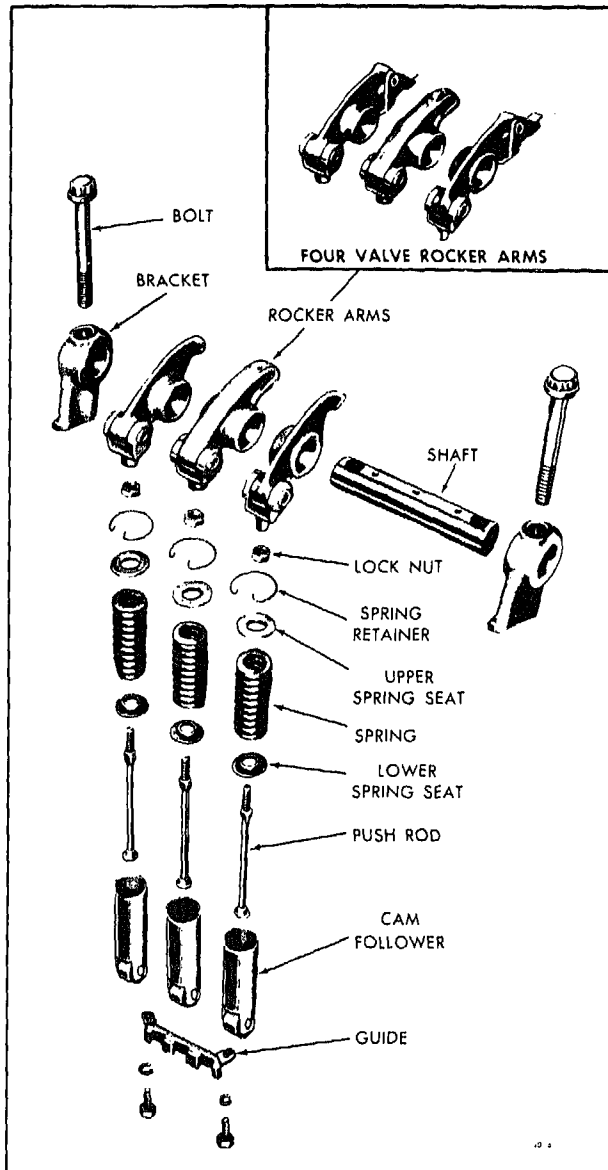
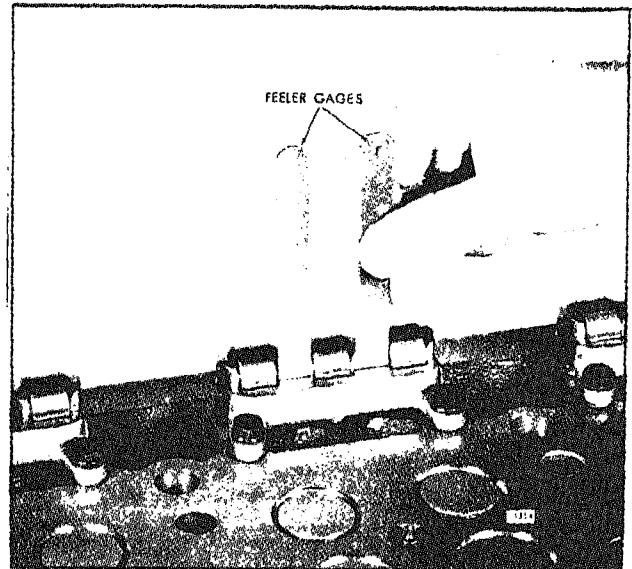
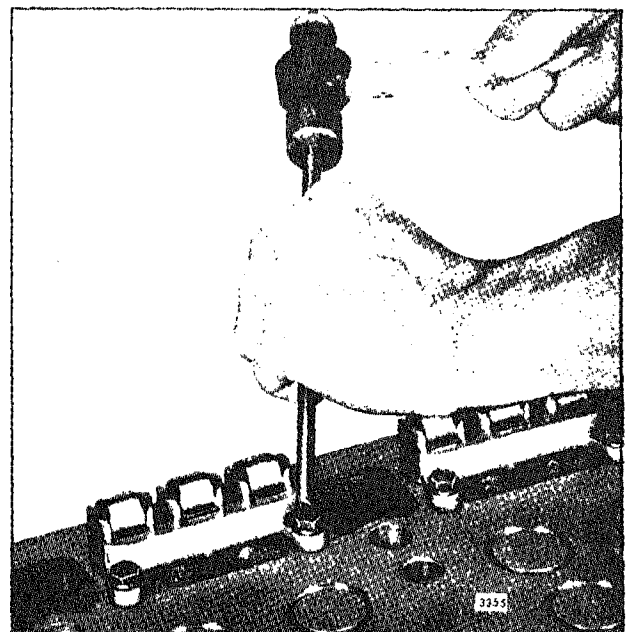

Fig. 8 - Valve and Injector Operating Mechanism Details and Relative Location of Parts
Fig. 9 - Checking the Clearance Between the Cam Follower Guide and Cam Follower Legs
Fig. 10 Adjusting Cam Follower Guide
1. Install a serrated lower spring seat on each push rod. If the engine being assembled was equipped with plain lower spring seats, replace them with serrated spring seats (Fig. 8).
8. Attach the cam follower guide (Fig. 8) to the bottom of the cylinder head to hold the group of cam followers in place. Tighten the cam follower guide bolts to 12-15 lb-ft torque. Check to be sure there is at least .005" clearance between the cam follower legs and the cam follower guide (Fig. 9). If there is insufficient clearance, loosen the guide bolts slightly and tap each corner of the guide with a brass rod (Fig. 10). Then retighten the bolts to 12-15 lb-ft torque and recheck the clearance.